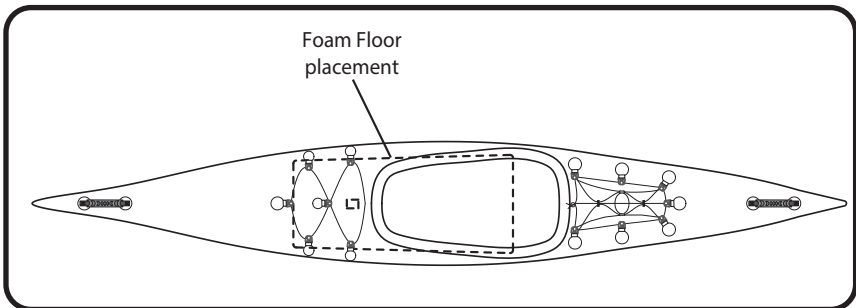

Figure 3
- 3) Install the Foam Floor. The Foam Floor should be placed with the wider end at the cockpit. You can use the front thwart alignment line, printed on the inside of the kayak, to align the front end of the floor. Make sure that the Velcro loop on the hull of the kayak comes up through the hole in the floor. **See figure 3.**